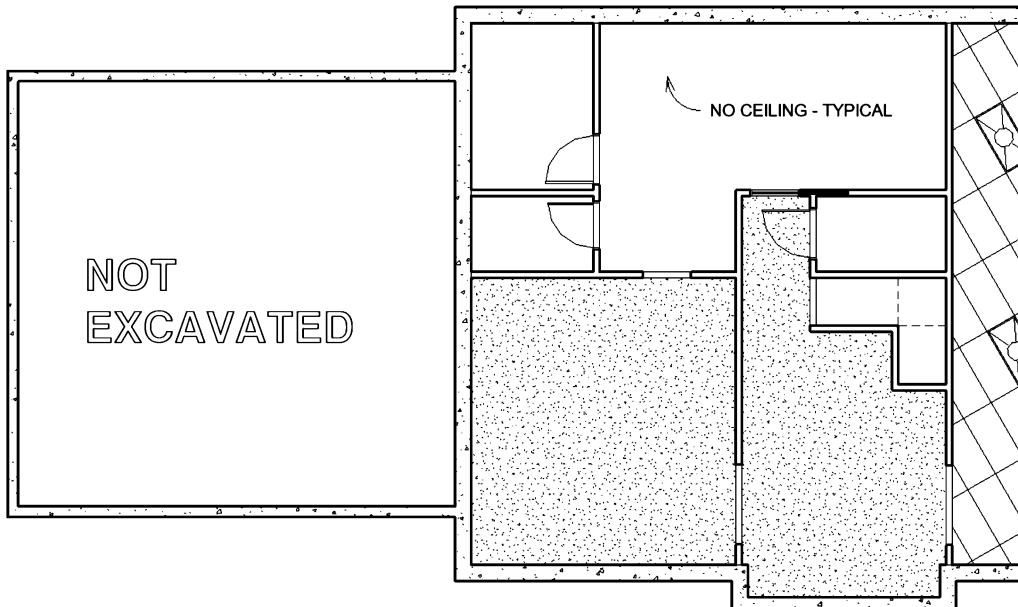

FIGURE 9-4.5 New text style added
NOTE: You can use any Windows True-Type font. If you do not have this font, select another that best matches (Figure 9-4.5).
10. Use the new text style to create the text shown below (Figure 9-4.5).